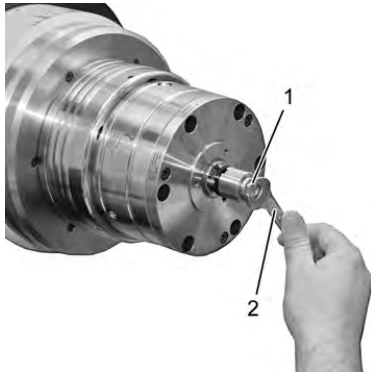

Fig. 35
3. Close the coupling receptacles [1] over the collar of the segmented clamping bushing [2] and groove of the coupling carrier [Fig. 35/3] and keep them closed.